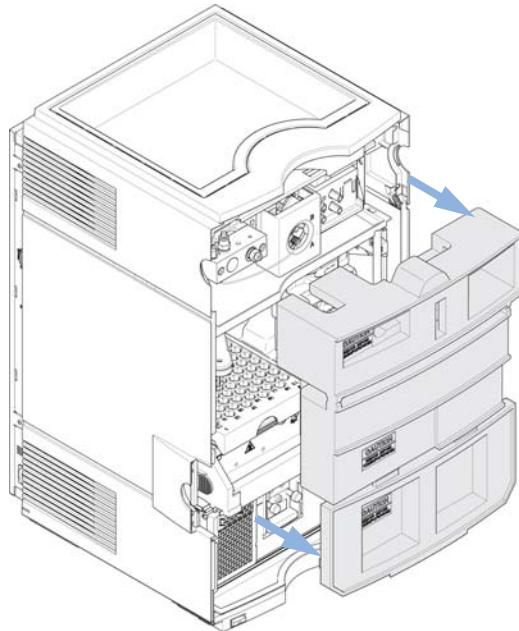

Figure 2 Remove the Transport Foam
- 14** Before switching on the module check that all transport foams have been de-installed (see Figure 2 on page 38). Then switch on the module via the power push button.